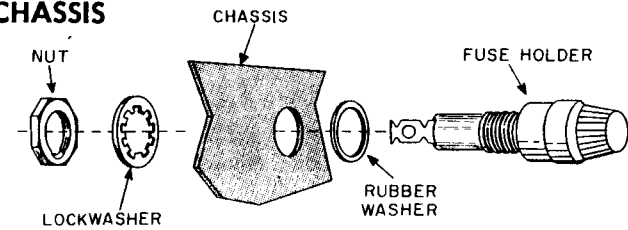

FIGURE 4. FUSE HOLDER MOUNTING
- ☑ Fuse holder. Position with the terminals as shown. Mount as shown in Figure 4.